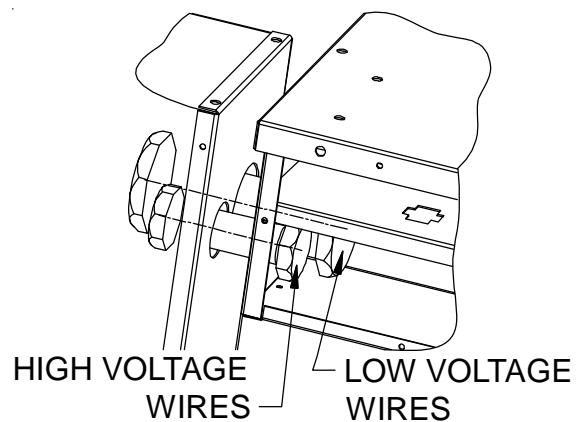

Figure 1.
- Secure the high voltage and low voltage conduits to the heat kit electrical panel using the supplied plastic bushing nuts as shown in Figure 1.